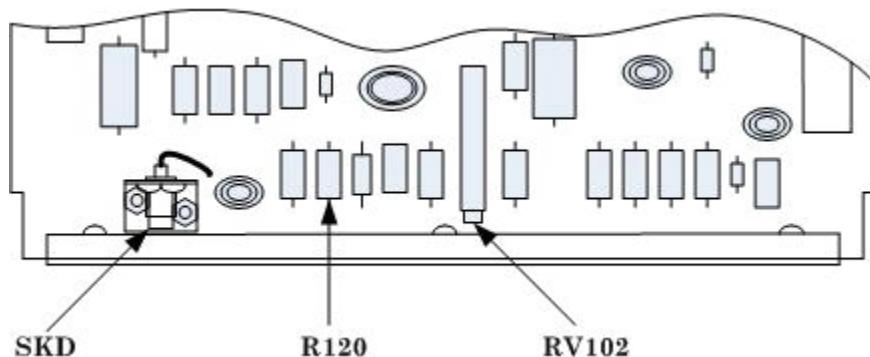

Figure 5. Gamma channel adjustments - amplifier board.
- (26) Connect oscilloscope to R120 (fig. 5) (end closest to edge of amplifier board) and ground to SKD bracket on amplifier board (fig. 5), using probe supplied with oscilloscope.
(27) Install reference dosimeter M2 in TI.
Make certain trigger level is as close to baseline as possible. To keep trace/pulse as steady as possible, use oscilloscope EXT TRIG input. Connect EXT TRIG input to R120 (fig. 5) along with oscilloscope input.
(29) Adjust oscilloscope to obtain a pulse trace with a known zero volt baseline (pulse height approximately 5 V, width less than 1 mS).
(30) If positive pulse amplitude, with reference to zero volt, is not 0.006 times assigned gamma dose for M2 (example: 4.8 V for an M2 with a nominally assigned value of 800 cGy) when **DEPRESS FOR READING** switch is pressed, adjust RV102 (fig. 5) until positive pulse amplitude is 0.006 times assigned gamma dose for reference dosimeter M2 (R).
(31) Disconnect oscilloscope.
(32) With reference dosimeter used in **9 a** (48) above installed, repeat **9 a** (40) through (48) above.